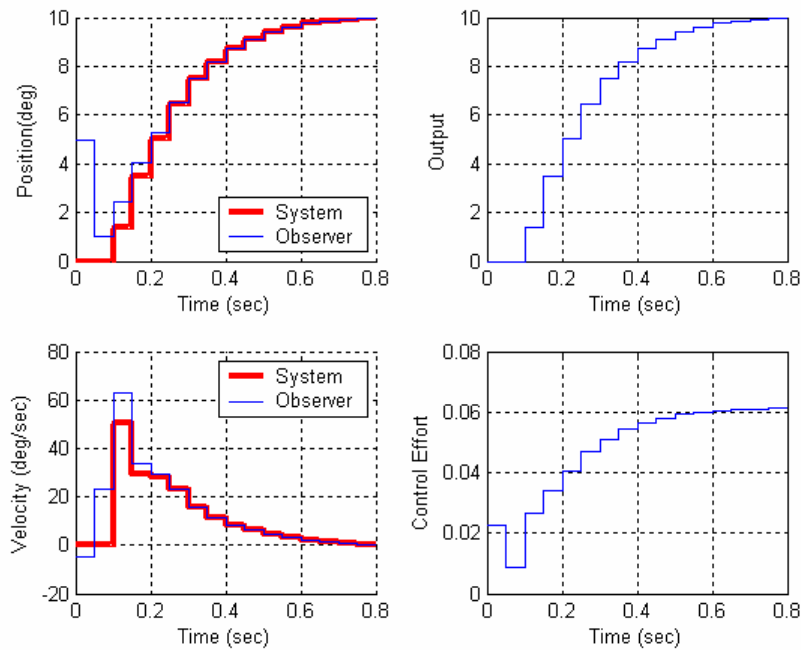

Figure 5: Results for problem 3b.
b) Place all the state feedback poles at 0.4 and all of the observer poles at 0.2. The output of the system is the position of the first disk and this is also the output available to the observer ($C = C_y$ in this case). The disk is initially estimated to be at 5 degrees, the velocity is initially estimated to be -5 degrees/sec, and the delayed control signal is estimated to be 1 degree. The true system is initially at rest (all initial states are zero) For a 10 degree step input you should get the graph shown in Figure 5. Turn in your plot.